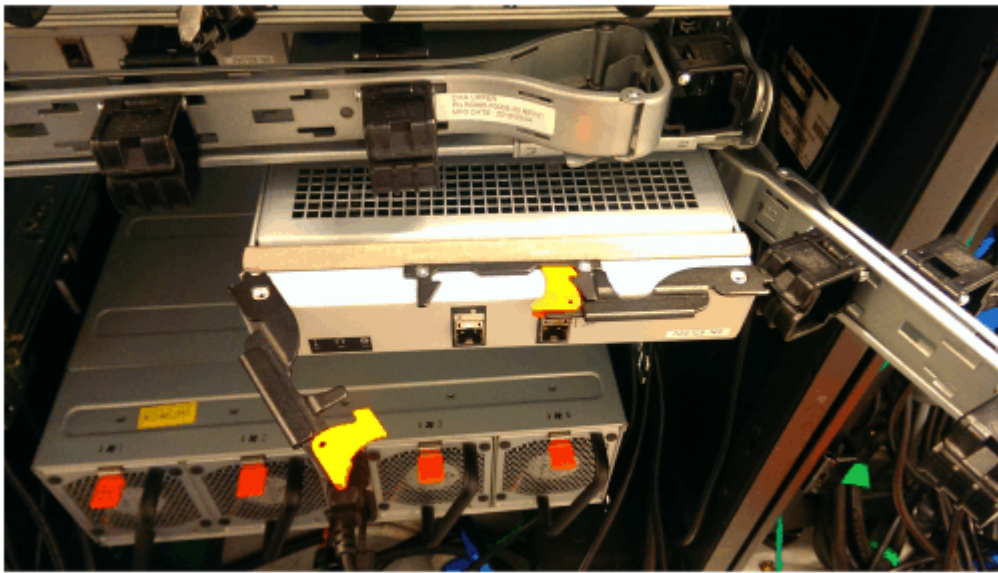

Figure 63. Install the expansion canister
1. Disconnect the elbow of the lower cable management arm to swing it out of the way, as shown in Figure 63 on page 59.
4. When the expansion canister is fully inserted, rotate each handle inward to lock it into position, as shown in Figure 63 on page 59.